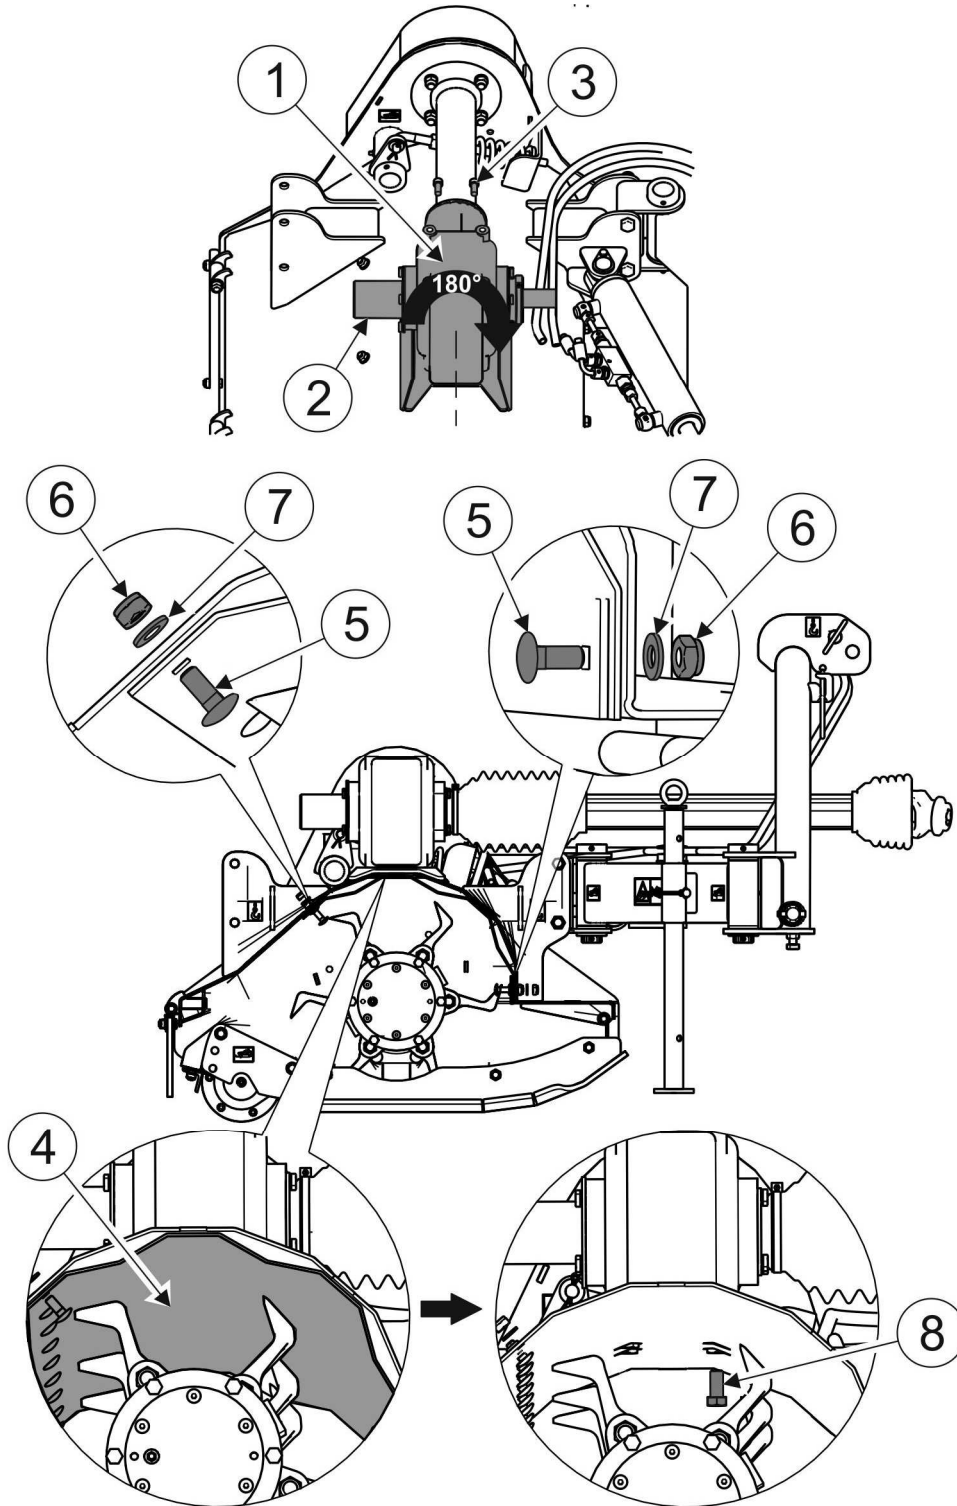

FIG. 4.2 Disassembly of intersecting axis gear
If the rotation direction is incorrect, disassemble and turn 180° the intersecting axis gear (1) (FIGURE 4.2) so as to ensure that the intersecting axis gear transmits torque from the PTO shaft to the belt transmission in the correct direction.